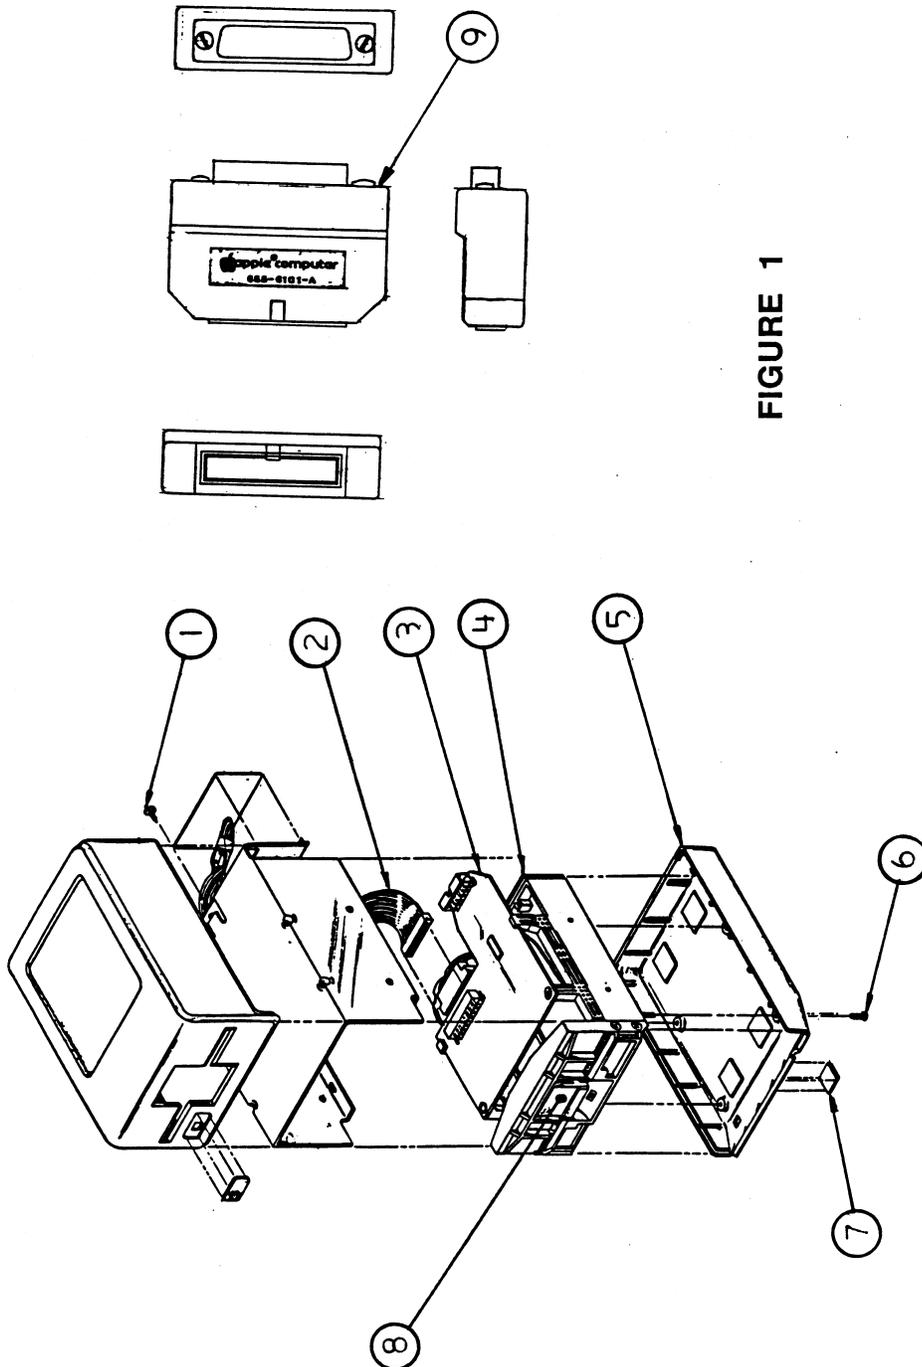

FIGURE 1
- 5.3 Complete Assembly (Figure 1)
□ DISK III – COMPLETE ASSEMBLY (Figure 1)